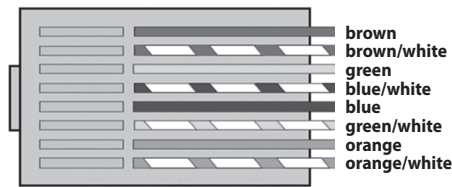

Figure 4 - Type B RJ45 termination colour code
Step 7 Next install a single length of direct burial Cat5 cable from the DTM in the order point, through the existing underground conduit(s) to the likely location of the base station (Q-P9BS) in the kitchen area. Then, using your crimping tool, terminate both ends of the cable with RJ45 plugs, remembering to fit waterproof connection cover provided onto the Cat5 at the DTM end. Use your Cat5 tester to confirm a PASS for a full 8 core test. Figure 4 shows the colour code sequence for wiring the plug.